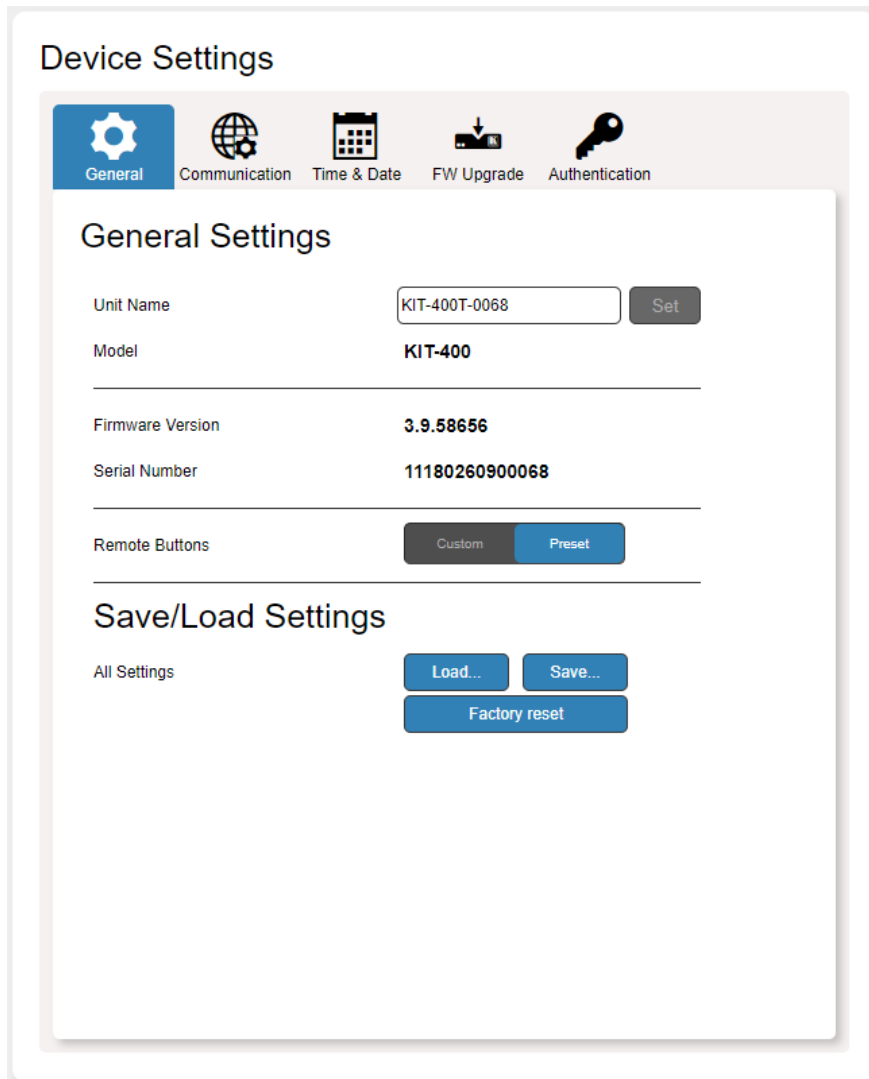

Figure 18: Device Settings Page – General Settings Tab
2. In the Navigation pane, click **Device Settings**. The Switching page opens (Figure 18).
1. In the navigation pane click **Device Settings**. The Switching page opens (Figure 18).
The Device Settings page appears (Figure 18).